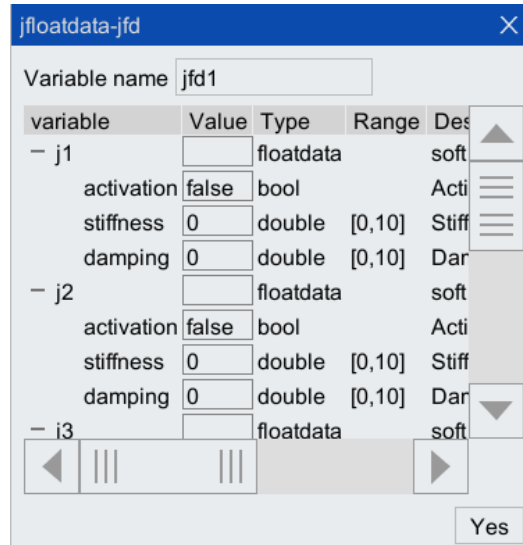

Figure 5-6 Parameter configuration interface
Step3. Click the "  " after the [jfd] parameter, and the configuration interface shown in Figure 5-6 will pop up.